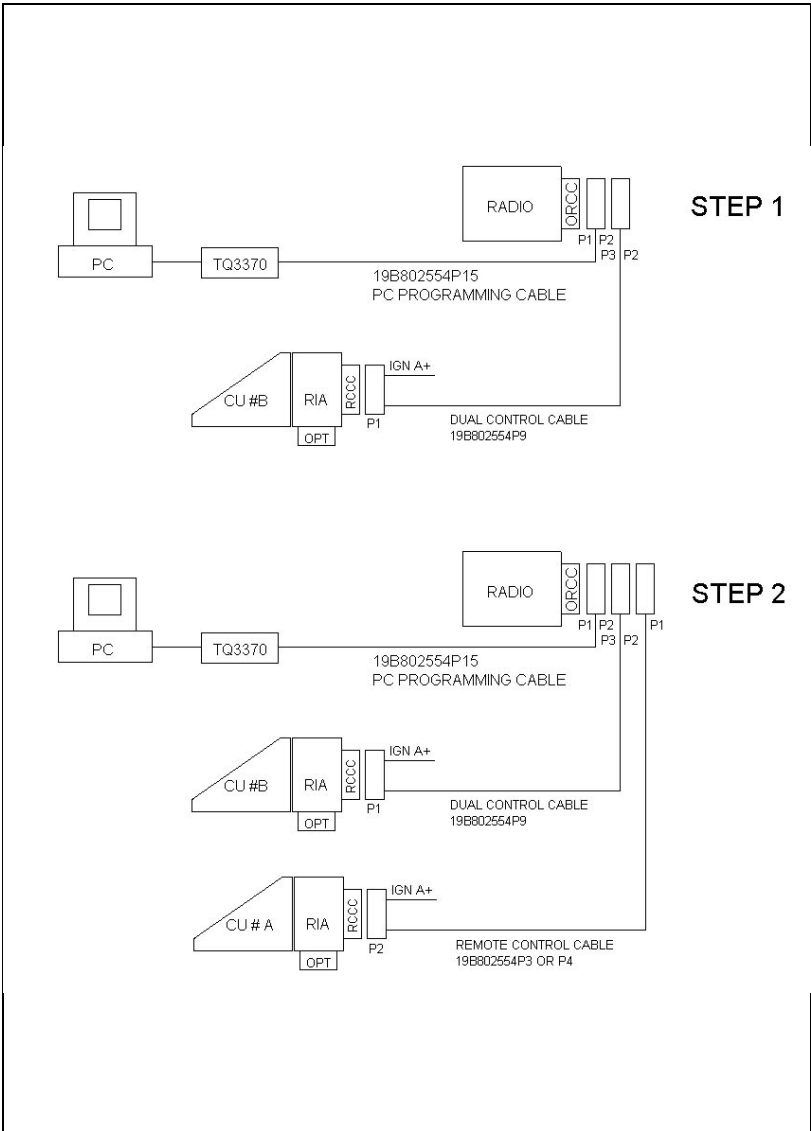

Figure 32 - ORION Dual Control Unit PC Programming Configuration Remote Mount
1. Configure the ORION Remote Mount Radio and Auxiliary Control Unit with the PC Programming Assembly, as shown in Figure 32, Step 1. Program the radio with the following files:
2. Now configure the Remote Mount Radio, the Main Control Unit, and the Auxiliary Control Unit together with the PC Programming Assembly, as shown in Figure 32, Step 2. Program this configuration with the following files: